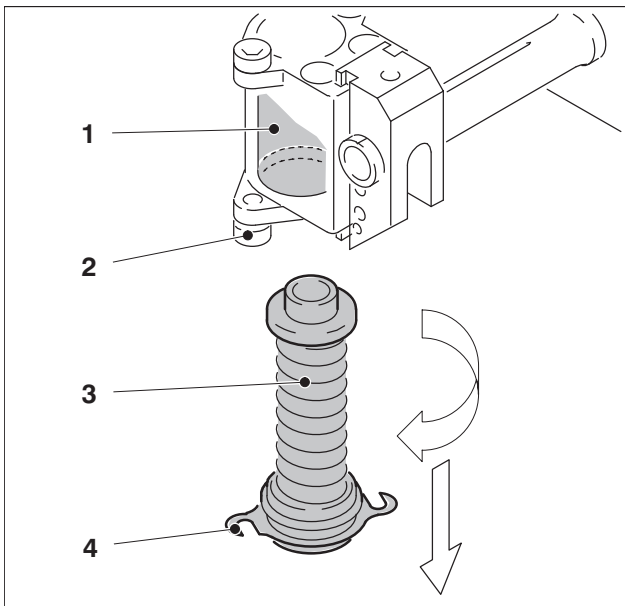

Fig. 17 Forwarding sucker
- 1. Slacken the Allen screws (Fig. 17/2). Turn the bayonet catch (Fig. 17/4) anti-clockwise to re-
1. Release it and remove the forwarding sucker (Fig. 17/3).
2. Clean the forwarding sucker (Fig. 17/3) and the forwarding sucker housing (Fig. 17/1).